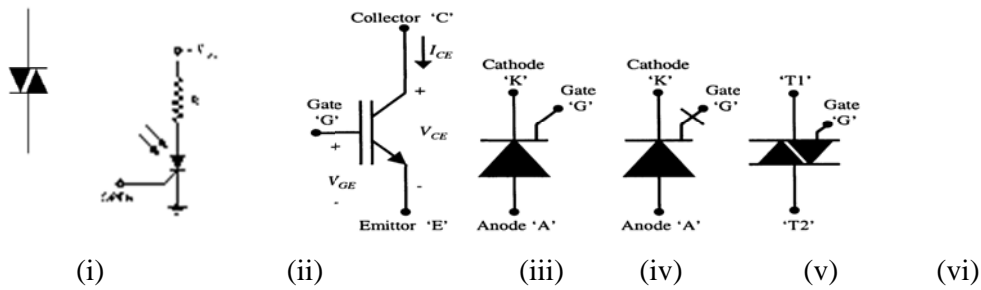

Figure 2
- a) Identify the power electronic devices shown in figure 2 and Classify them as unidirectional and bidirectional devices.